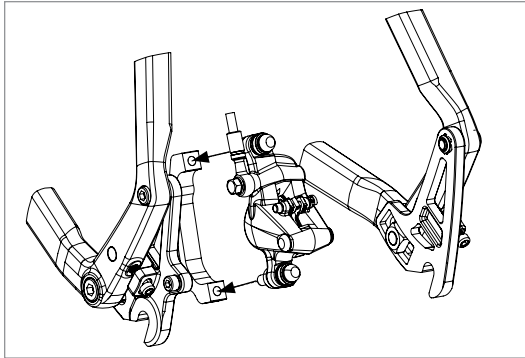

Figure 8
13. The adjustable-position dropouts are now properly installed on the frame and should resemble approximately what is shown in Figure 8 (rear wheel and axle omitted for clarity). Proceed to install and adjust the rear brake per the brake manufacturer's instructions.